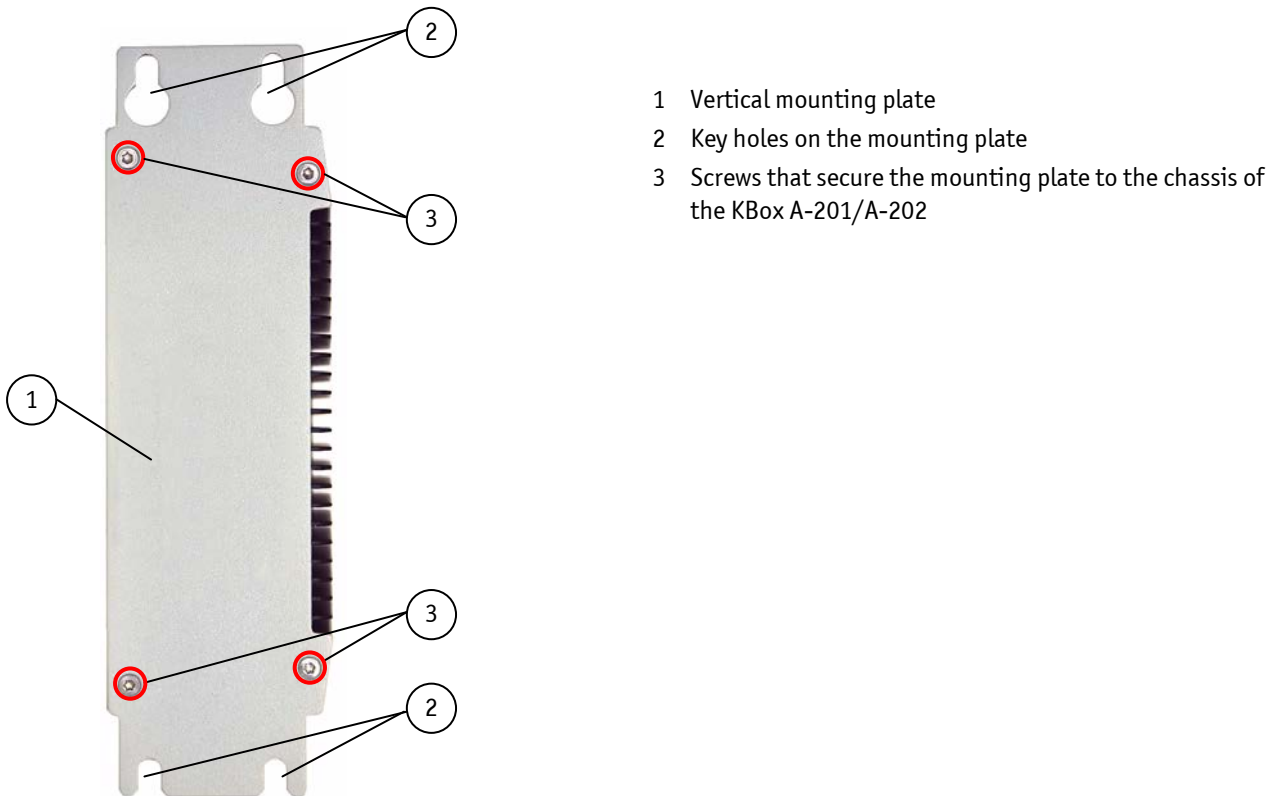

Fig. 12: Rear side of the KBox A-201/A-202 system with vertical mounting plate
The key holes of the vertical mounting plate (Fig. 12, pos. 2) allow you to mount the KBox A-201/A-202 in vertical position.